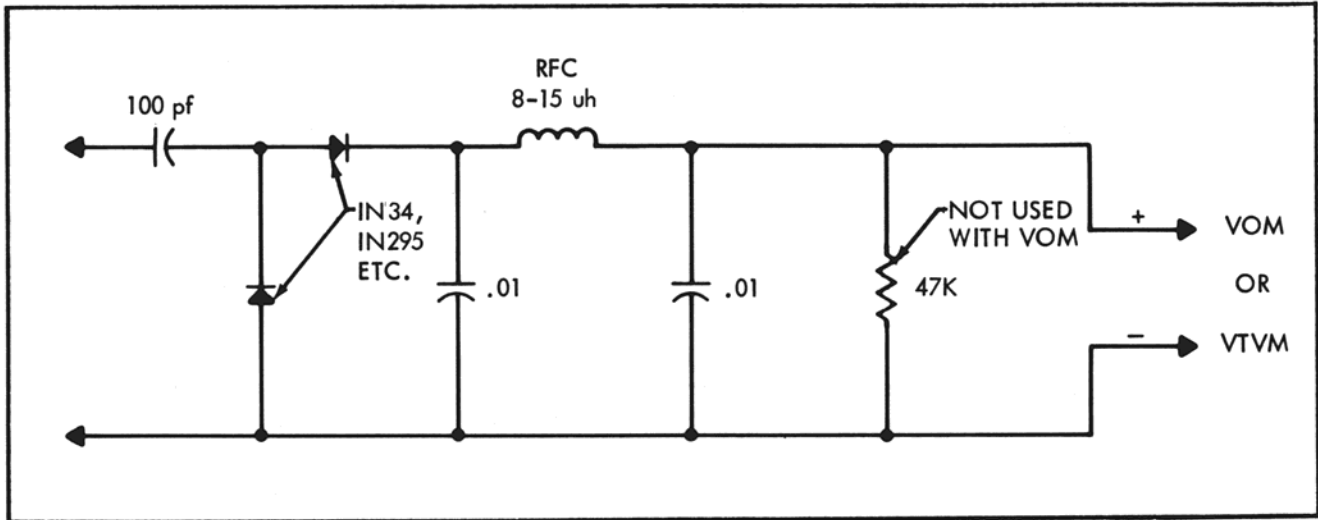

Figure 4-1 RF Probe
RF Probe for VOM	If none available for instrument, one may be fabricated as shown in Figure 4-1.
1. Connect a DC voltmeter, through an RF probe (Figure 4-1) to terminal 2 of IC2.